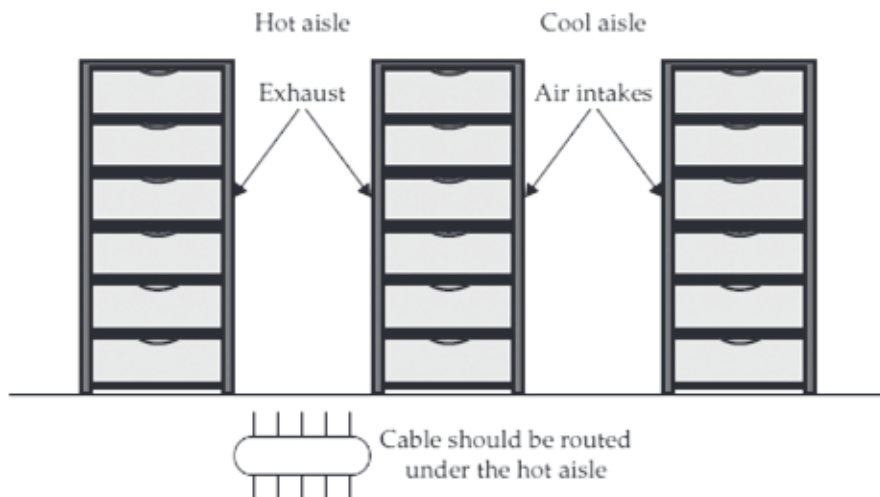

Fig.5 Route cables along the hot aisle whenever possible to avoid airflow problems in the cool aisle.
- Whenever possible, it's best to route your cables under the hot aisle, as shown in Figure 5.